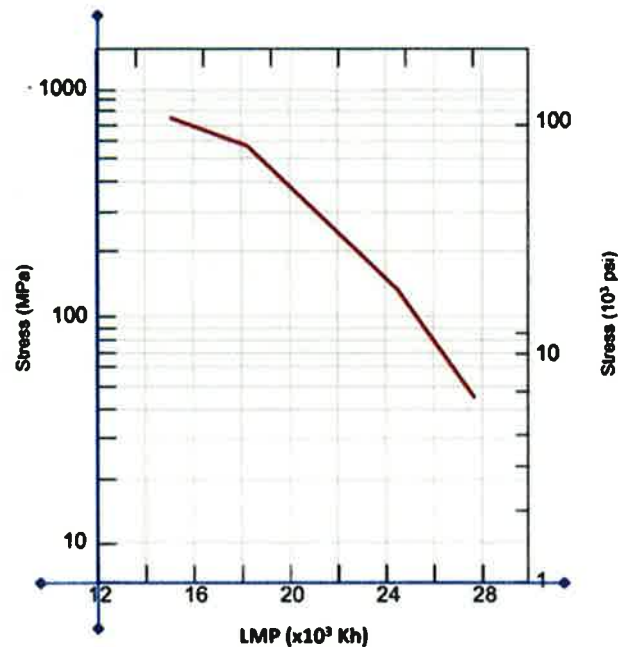

FIGURE Q2
2. The turbine blade was manufactured using a steel alloy by conventional casting technique and has been used for three years without any inspection to observe its condition. The safe lifetime of the blade can be estimated by using the Larson-Miller parameter diagram as shown in **FIGURE Q2** and is defined by $P(\text{Larsen} - \text{Miller}) = T(20 + \log t_r)$.